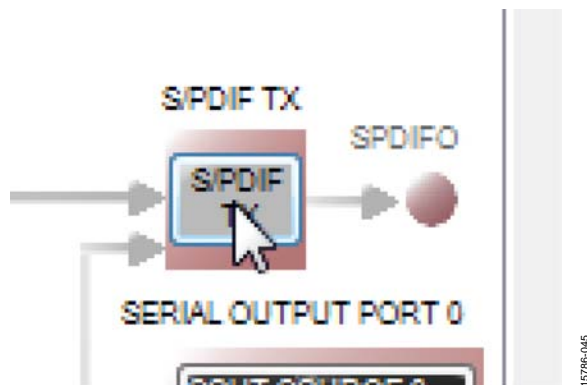

Figure 45. Configuring the S/PDIF Transmitter Routing Matrix Register
- a. Click the **S/PDIF TX** box (see Figure 45).